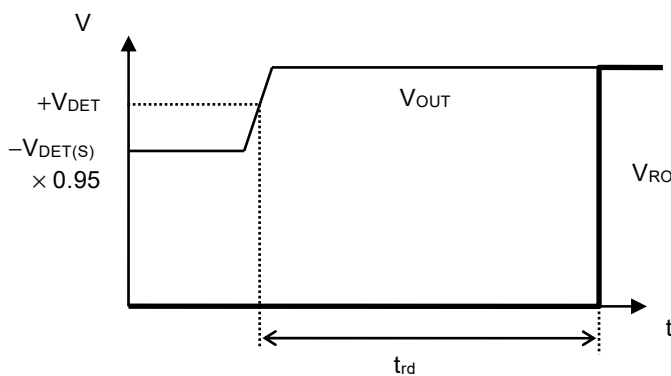

Figure 7 Release Delay Time
- *3. The time from when V_{OUT} exceeds +V_{DET} to when the RO pin output inverts (Refer to **Figure 7**). This value changes according to the release delay time and monitoring time adjustment capacitor (C_{DLY}).